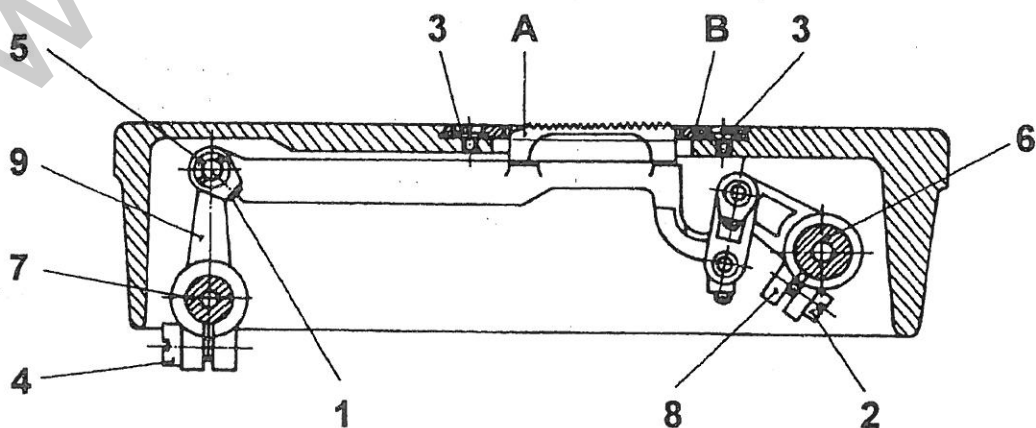

Fig. 8
**4. To adjust the feed-dog height above the throat plate (Fig. 8)**
**6. To adjust the throat plate (Fig. 8)**
**11. To adjust the elliptical path of the feed-dog movement (Fig. 8)**